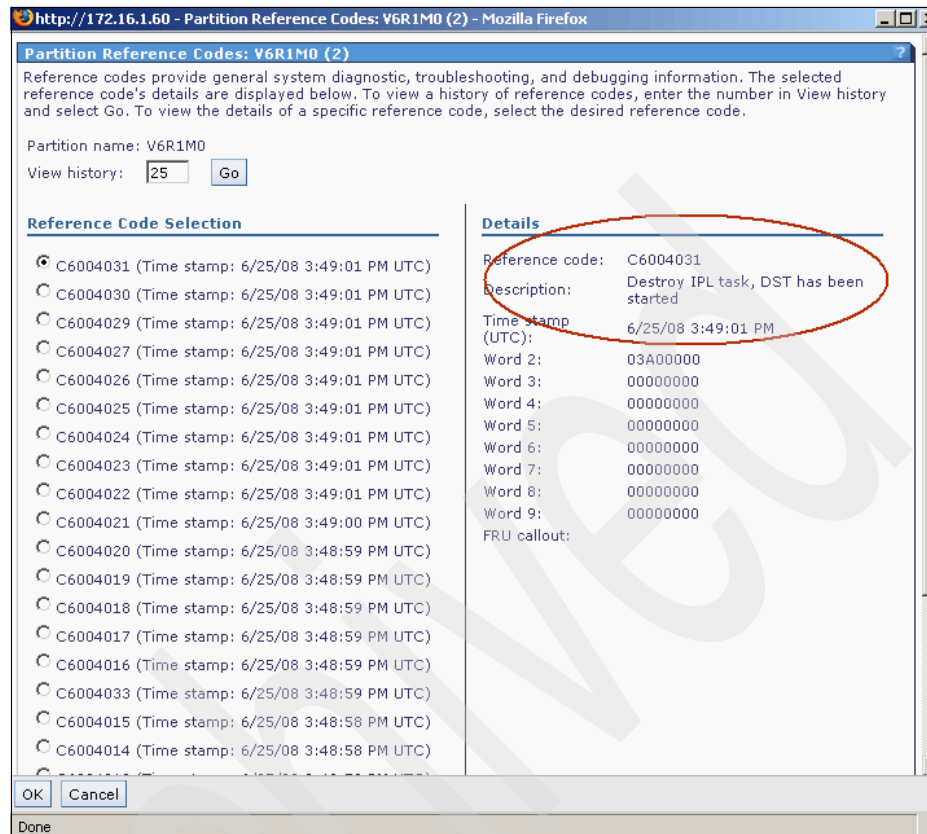

Figure 5-59 Boot reference code for console connection
3. During the boot phase, the status information in the **Reference Code** column for the IBM i partition changes from time to time. If status code C6004031 appears in the Reference code column, you can connect the System i Access for Windows operating console to the IBM i partition to finally IPL the IBM i partition. Figure 5-59 on page 281 shows the detailed Reference code to connect the operation console.